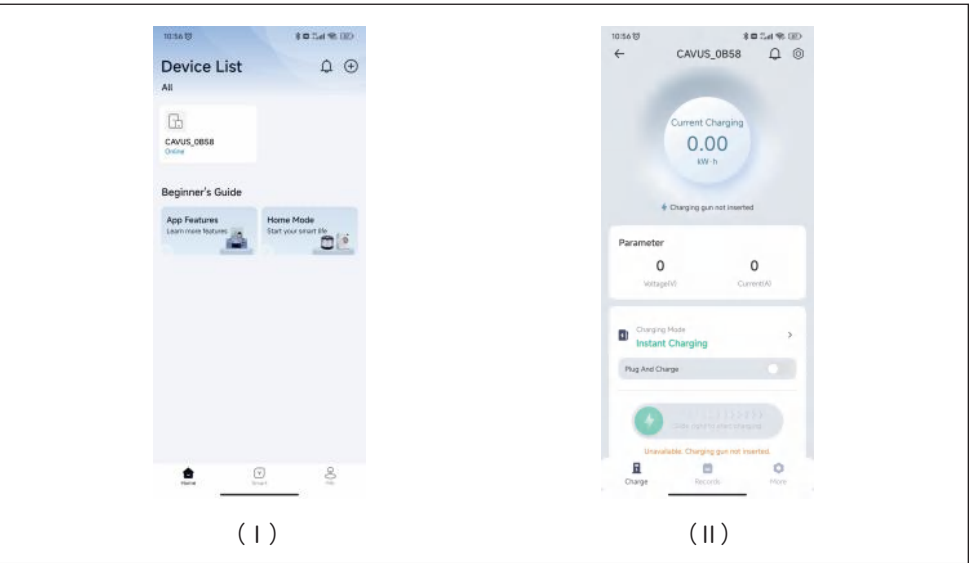
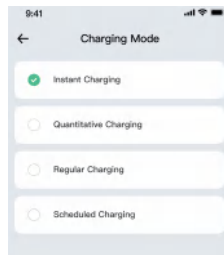

Figure 3.3.6 Start charging through the APP
Figure 3.3.7 Charging mode select
3.3.5 Now, you can start charging through the APP by tap the device which has been added successfully (See figure 3.3.6).
3.3.6 The APP provides four charging modes (See figure 3.3.7) by tap the button “Charging Mode” (See figure 3.3.6 (II)).